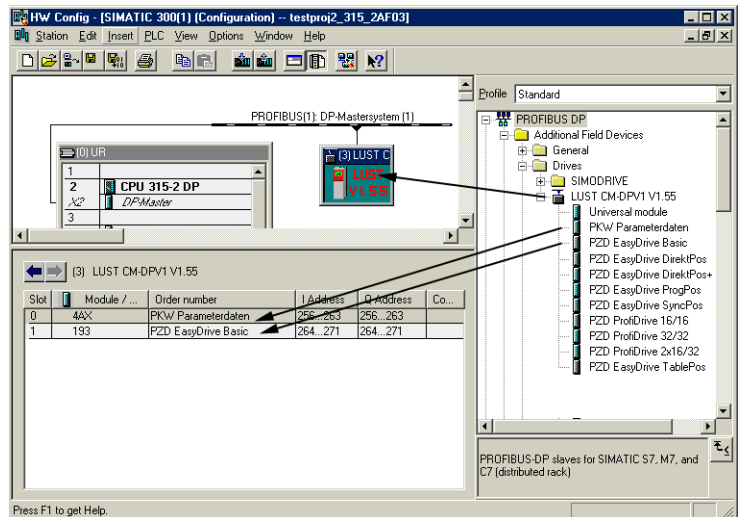

Figure 2.9 Hardware configuration of the S7
- Select the DP-Slave (see Figure 2.9 “(3) LUST CM-DPV1”).